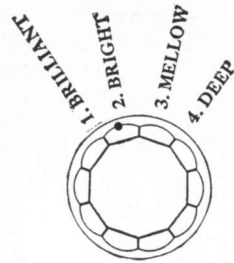

FIG. 2
There are four settings of the tone control which are felt as notches when the knob is turned. These have been named: (1) brilliant, (2) bright, (3) mellow and (4) deep. The approximate position of the dot on the tone control knob for each setting is shown in Figure 2.